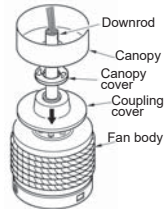

Fig.8
Step 4: Slip coupling cover, canopy cover and canopy onto downrod. (Fig. 8)